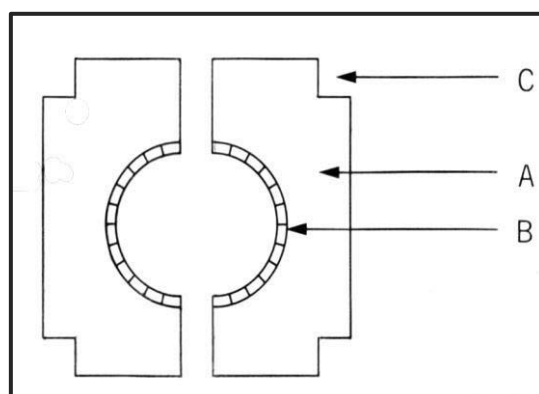

FIGURE 3.2
3.2 **FIGURE 3.2** below shows the top view of the yokes and laggings for a round column. Study the picture and answer the questions that follow.